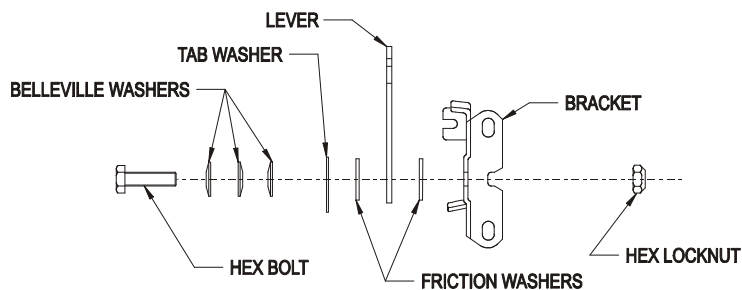

FIGURE 15
- Tension in throttle lever can be adjusted by adjusting the tightness of the lever pivot bolt, which is located under the console (See Figure 15).